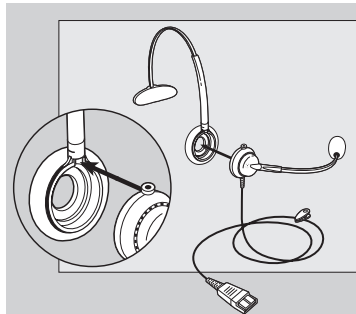

Figure 5-1. Headband Assembly.
2. Align the mounting post on the receiver over the headband mounting ring (covered by a foam cushion). The mounting post fits into a notch on the headband mounting ring (see Figure 5-1).